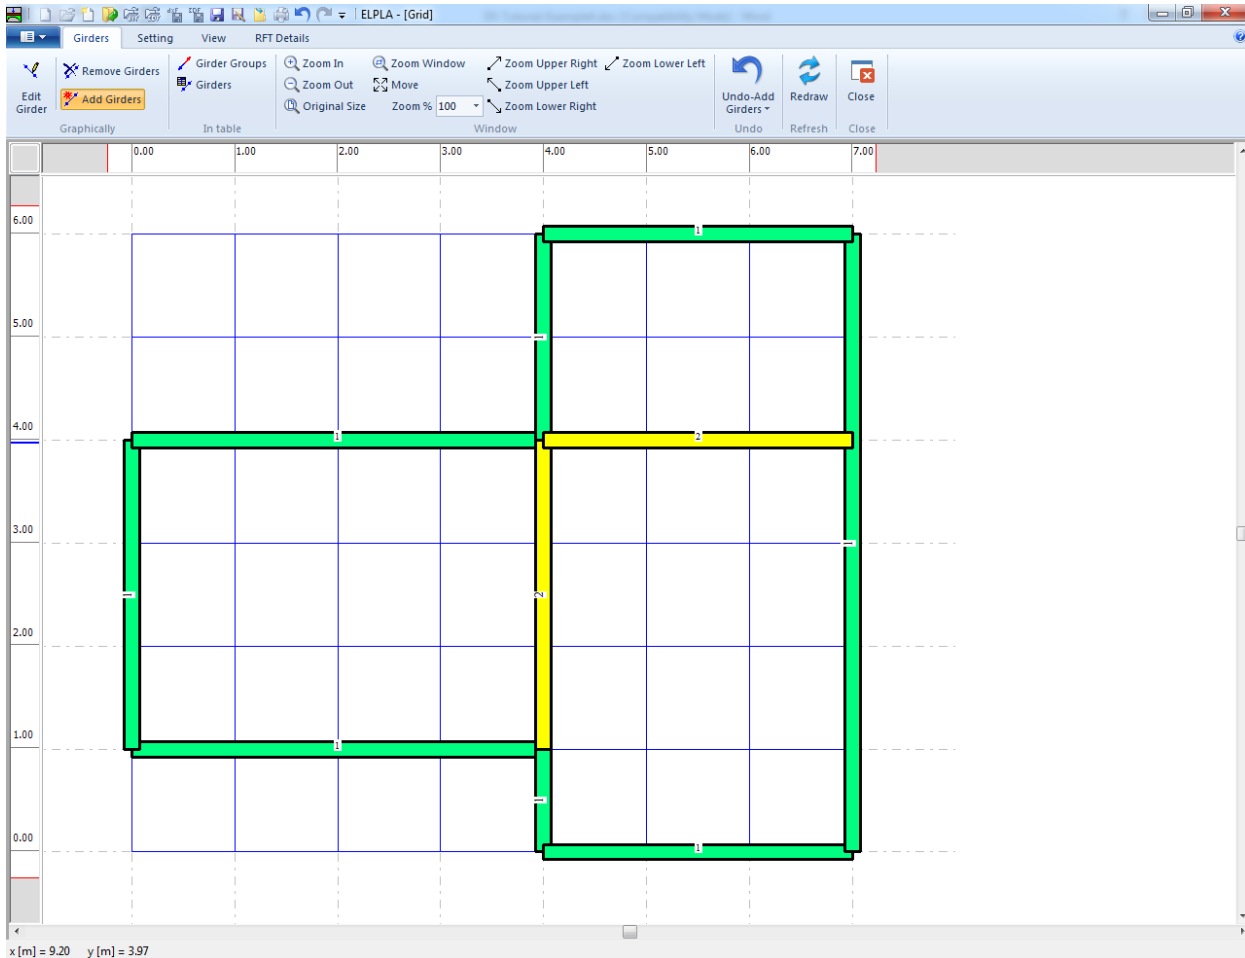

Figure 4.17 Girders
Repeat the previous steps to add the remaining girders on the net, taking into account the type of girder for each one. After you have completed the definition of all girders, the screen should look like the following Figure 4.17.
- Choose "Save" command from "File" menu in Figure 4.17 to save the data of girders
- Choose "Close" command from "File" menu in Figure 4.17 to close the "Girders" Window and to return to *ELPLA* main window.